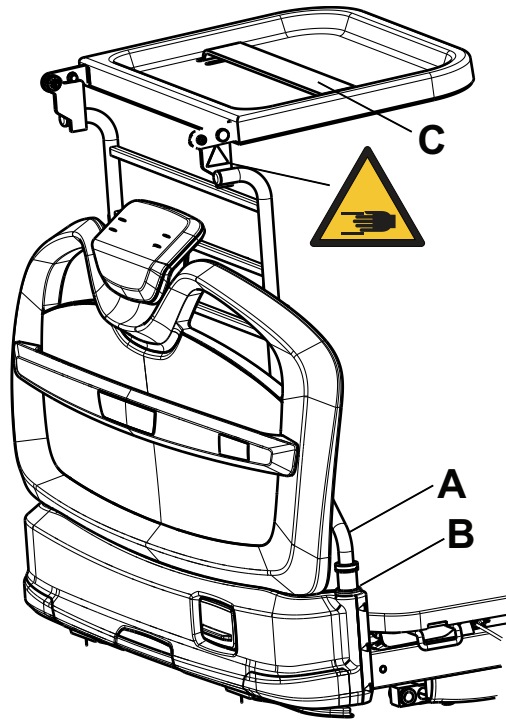

Figure 27 – Attaching the defibrillator tray
2. Insert the tray weldment frame (A) into the traction posts (B) at the foot end of the product (Figure 27).
2. Using the strap (C), strap the defibrillator to the defibrillator tray (Figure 27).